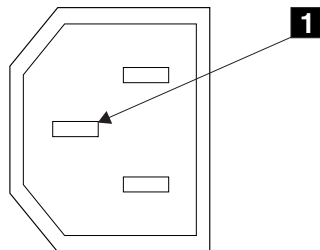

Figure 4. Ground pin
6. Check for continuity between the frame of the SAN Volume Controller 2145-4F2 and the ground pin of each main power connector. Figure 4 shows the location of the ground pin.